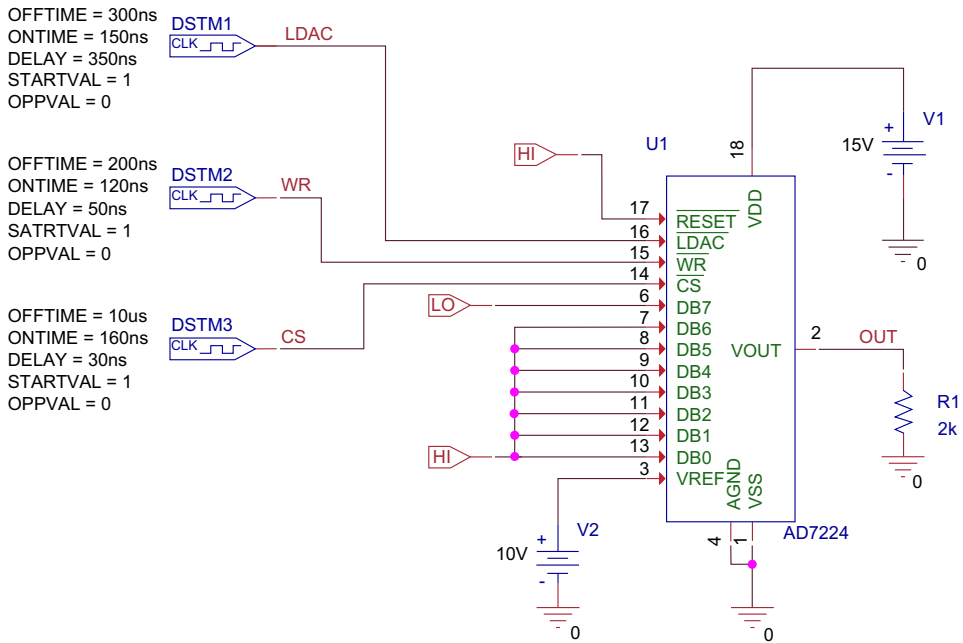

FIGURE 19.3
Figure 19.3 shows an AD7224 digital to analog converter (DAC) with an input digital data word of 0111 1111. From the manufacturer's data sheet, the output voltage is given by:
1. Draw the circuit in Figure 19.3. The AD7224 can be found in the DATA CONV library and the DigClock stimuli can be found in the source library.